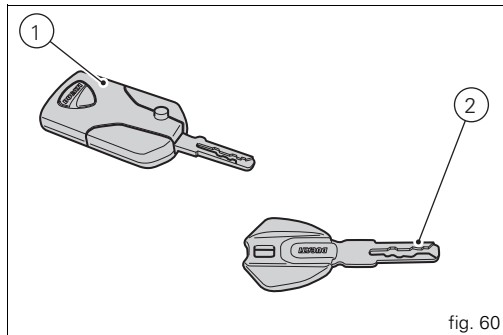

fig. 60
Keys (fig. 60)
- 1 active key (1, fig. 60)
- 1 passive key (2, fig. 60)
Do not ride with the key (1 or 2, fig. 60) inserted in the lock of the tank cap or in the seat lock as it could come out and represent a potential danger. Furthermore, if bumped, the key mechanism and the integrated circuit could be damaged.